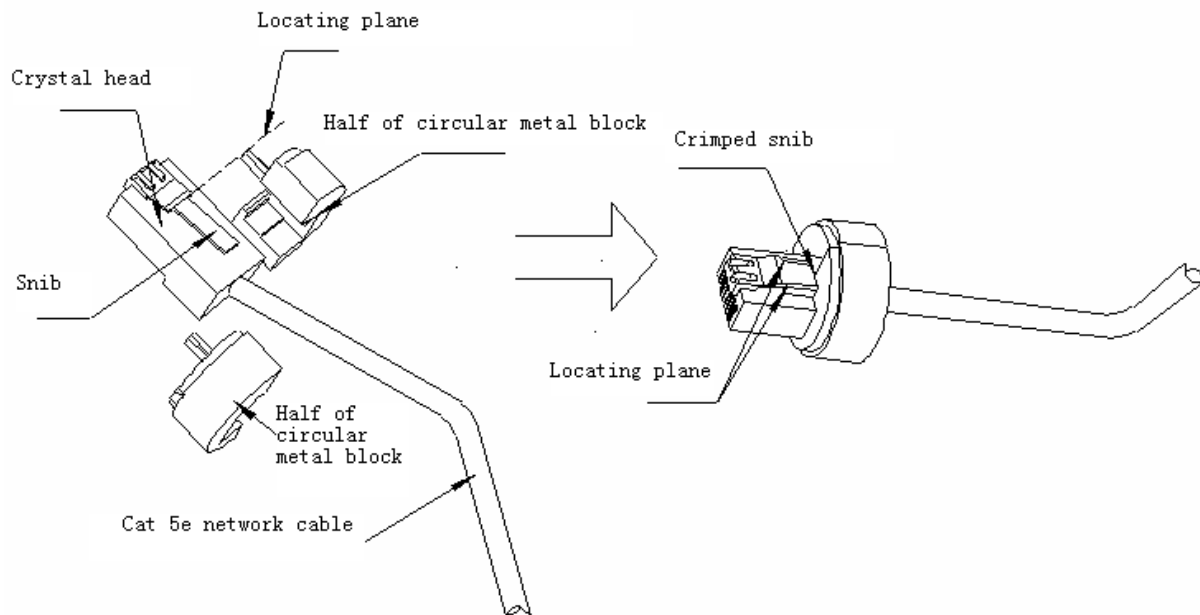

Figure 3 Assembly diagram for part 3, part 4 and crystal head
2) Crimped crystal head should be assembled with part 3 and part 4 (see figure 3) and be installed between part 3 and part 4 (two half of circular metal block), then the assembly should be installed in part 2. At this time pay attention to the encase direction, one side of the grip of crystal head should be toward guided slot in part 2